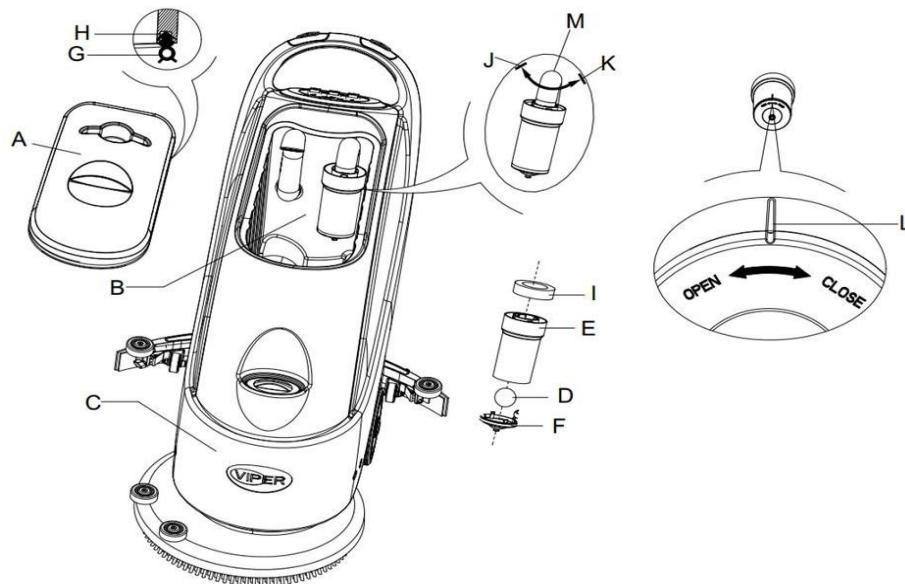

Figure 11
2. Press the power switch (38) to the position "O" to turn off the machine.
3. Open recovery tank lid (A, Figure 11), and take off the float device (36) from recovery tank.
4. Use pure water to clean recovery tank lid (A), the tank (B and C), and the float filter support frame (E). Through the Recovery tube (15), drain all the water from the water tank.
5. If necessary, following the symbols "Open" and "Close" as shown in Figure 11, open the bottom lid (F) of the float filter and clean the float (D), float filter support frame (E), and the filter sponge (I). After cleaning, fix the float onto the float filter support frame (E), and then align the mark groove (L) of the bottom lid (F) of the float filter with the mark groove (L) of the float filter support frame (E). Turn the bottom lid (F) of the float filter tight, and fix the filter sponge (I) onto the float filter support frame (E), and then onto the Vacuum tube (M).
6. Check the soundness of the sealing ring (G) of the water tank lid.
If necessary, the sealing strip of the water tank (G) may be taken out from the groove (H) and changed. When assembling a new water tank sealing strip, as shown in Figure 11 below, install the connector to the middle section of the rear part.
7. Check if the receiving surface of the sealing strip (G) is intact and seals adequately.
8. Close recovery tank lid (A).